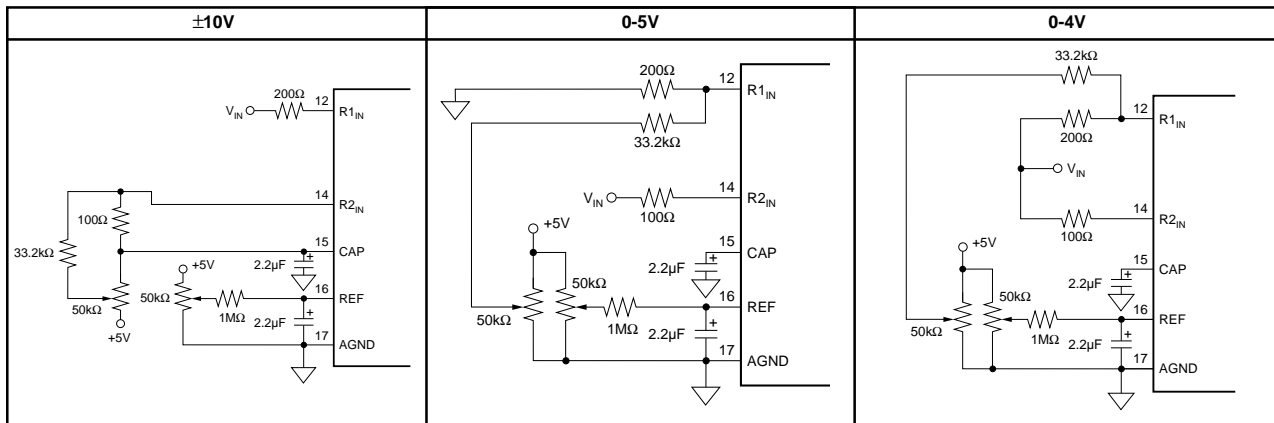
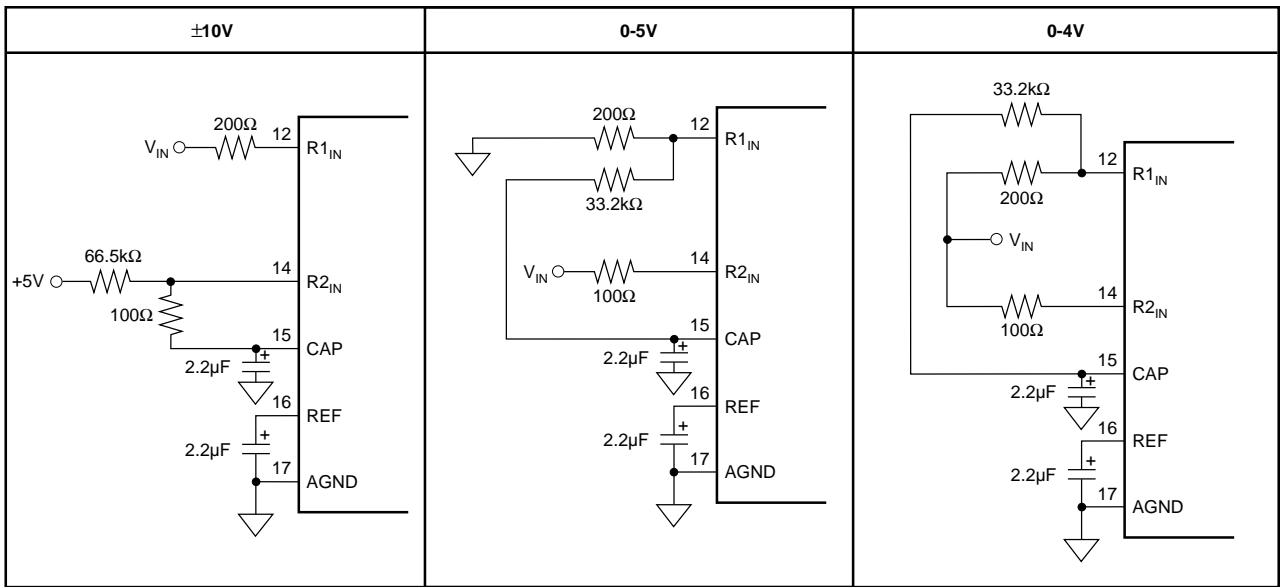
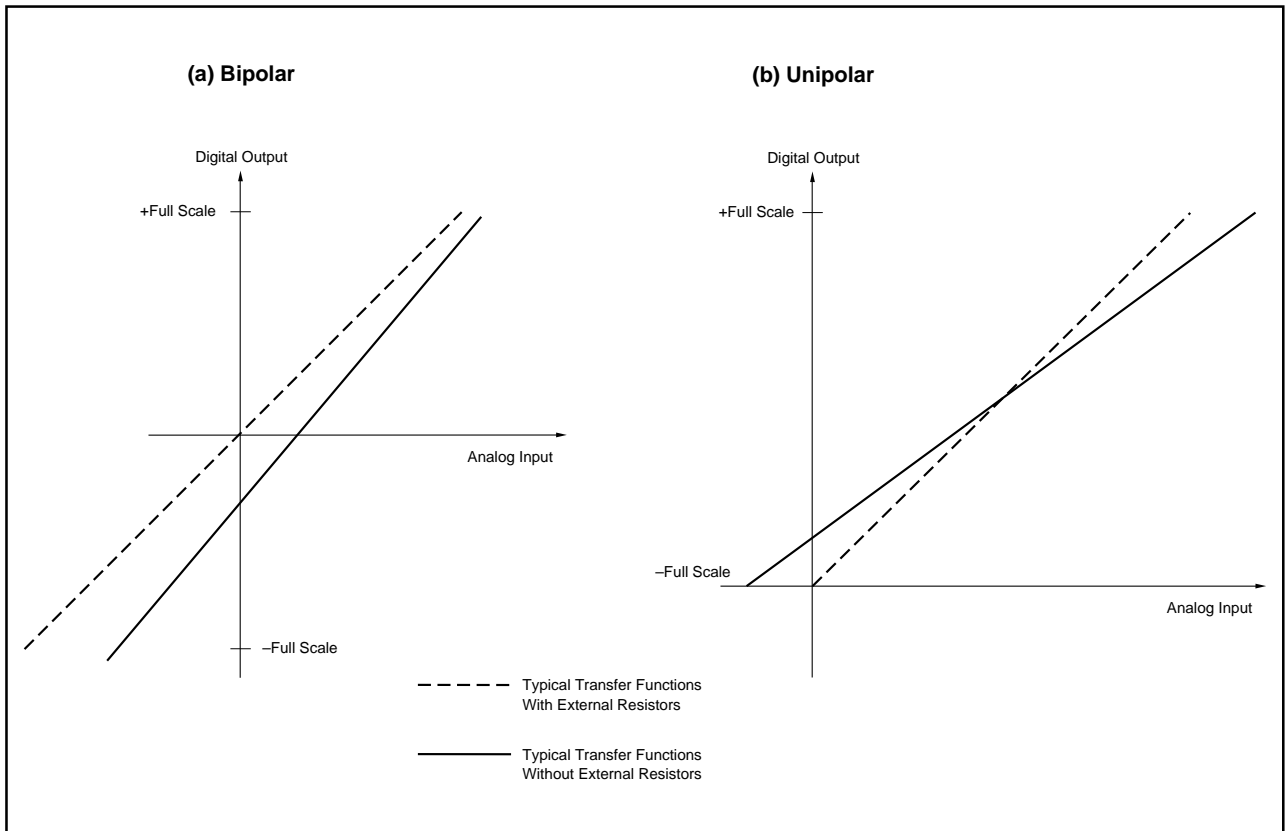

FIGURE 3a. Circuit Diagrams (With Hardware Trim).
FIGURE 3b. Circuit Diagrams (Without Hardware Trim).
FIGURE 4. Typical Transfer Functions With and Without External Resistors.
$T_A = +25^\circ\text{C}$ ,  $f_S = 40\text{kHz}$ ,  $V_{\text{DIG}} = V_{\text{ANA}} = +5\text{V}$ , using internal reference and fixed resistors shown in Figure 3b, unless otherwise specified.
TA = +25°C, fS = 40kHz, VDIG = VANA = +5V, using internal reference and fixed resistors shown in Figure 3b, unless otherwise specified.
The ISO807 offers three input ranges: standard  $\pm 10V$  and 0-5V, and a 0-4V range for complete, single supply systems. Figures 3a and 3b show the necessary circuit connections for implementing each input range and optional offset and gain adjust circuitry. Offset and full scale error(1) specifications are tested and guaranteed with the fixed resistors shown in Figure 3b. Adjustments for offset and gain are described in the **Calibration** section of this data sheet.
The input impedance, summarized in Table II, results from the combination of the internal resistor network shown on the front page of the product data sheet and the external resistors used for each input range (see Figure 4). The input resistor divider network provides inherent overvoltage protection guaranteed to at least  $\pm 25V$ .
To calibrate the offset and gain of the ISO807 in hardware, install the resistors shown in Figure 3a. Table VI lists the hardware trim ranges relative to the input for each input range.
To calibrate the offset and gain in software, no external resistors are required. However, to get the data sheet specifications for offset and gain, the resistors shown in Figure 3b are necessary. See the **No Calibration** section for more details on the external resistors. Refer to Table VII for the range of offset and gain errors with and without the external resistors.
See Figure 3b for circuit connections. Note that the actual voltage dropped across the external resistors is at least two orders of magnitude lower than the voltage dropped across the internal resistor divider network. This should be considered when choosing the accuracy and drift specifications of the external resistors. In most applications, 1% metal-film resistors will be sufficient.
The external resistors shown in Figure 3b may not be necessary in some applications. These resistors provide compensation for an internal adjustment of the offset and gain which allows calibration with a single supply. Not using the external resistors will result in offset and gain errors in addition to those listed in the electrical specifications section. Offset refers to the equivalent voltage of the digital output when converting with the input grounded. A positive gain error occurs when the equivalent output voltage of the digital output is larger than the analog input. Refer to Table VII for nominal ranges of gain and offset errors with and without the external resistors. Refer to Figure 4 for typical shifts in the transfer functions which occur when the external resistors are removed.
TABLE VI. Offset and Gain Adjust Ranges for Hardware Calibration (see Figure 3a).